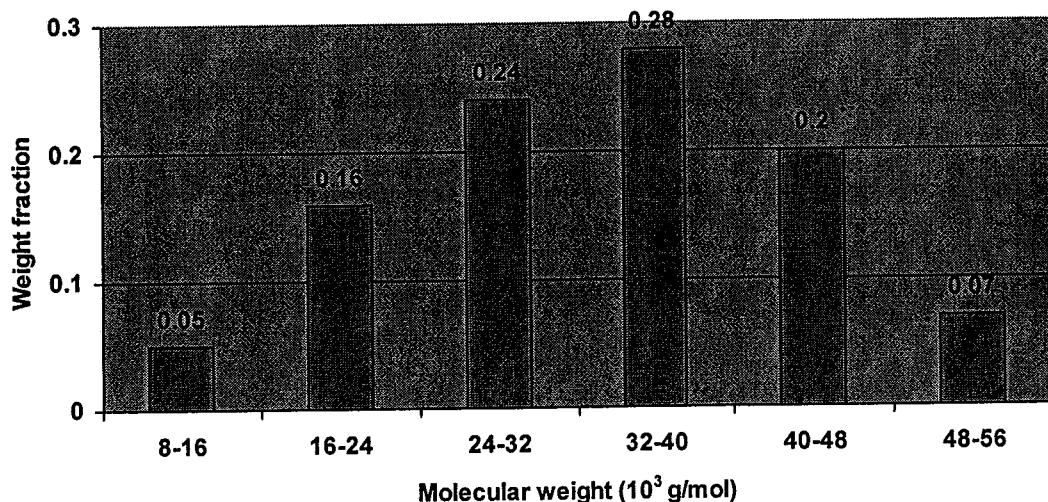

Figure 1: Hypothetical polymer molecule size distributions of polypropylene on the basis of weight fractions of molecules
- [d] Figure 1 shows a hypothetical polymer molecule size distribution for polypropylene.